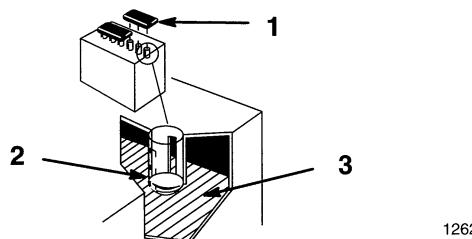

Figure 37
2. Lift off the filler caps (Fig. 37).
3. Slowly pour distilled water into each battery cell until the level is up to the lower part of the tube (Fig. 37).
2. Open covers to see into the cells. The electrolyte must be up to the lower part of the tube (Fig. 37). Do not allow the electrolyte to get below the plates. (Fig. 37).